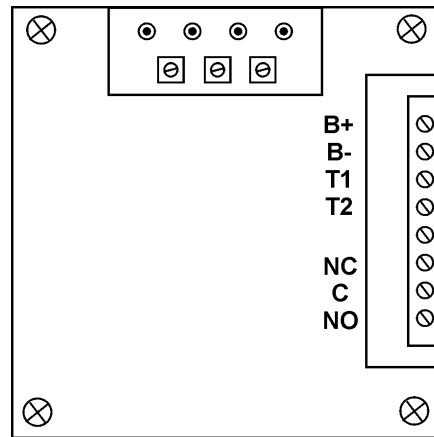

Figure 5. Rear Connections to the LVD400/600.
- 12.1** The center of each back panel has connections to the Form C relay contacts for connection to external audible or visual alarm circuits. See Figure 5.